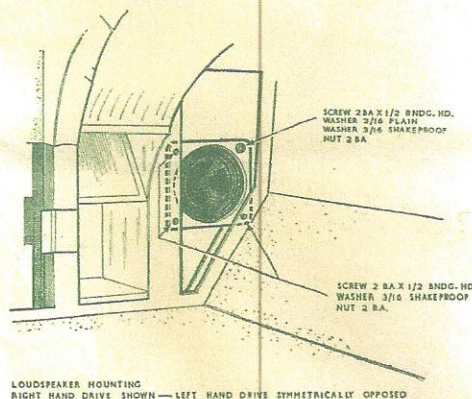

Fig. 5
3. Attach loudspeaker complete with card ring to side scuttle as shown in Fig. 5. The three $\frac{1}{4}$ " diameter fixing holes can be drilled using loudspeaker card ring as a template.